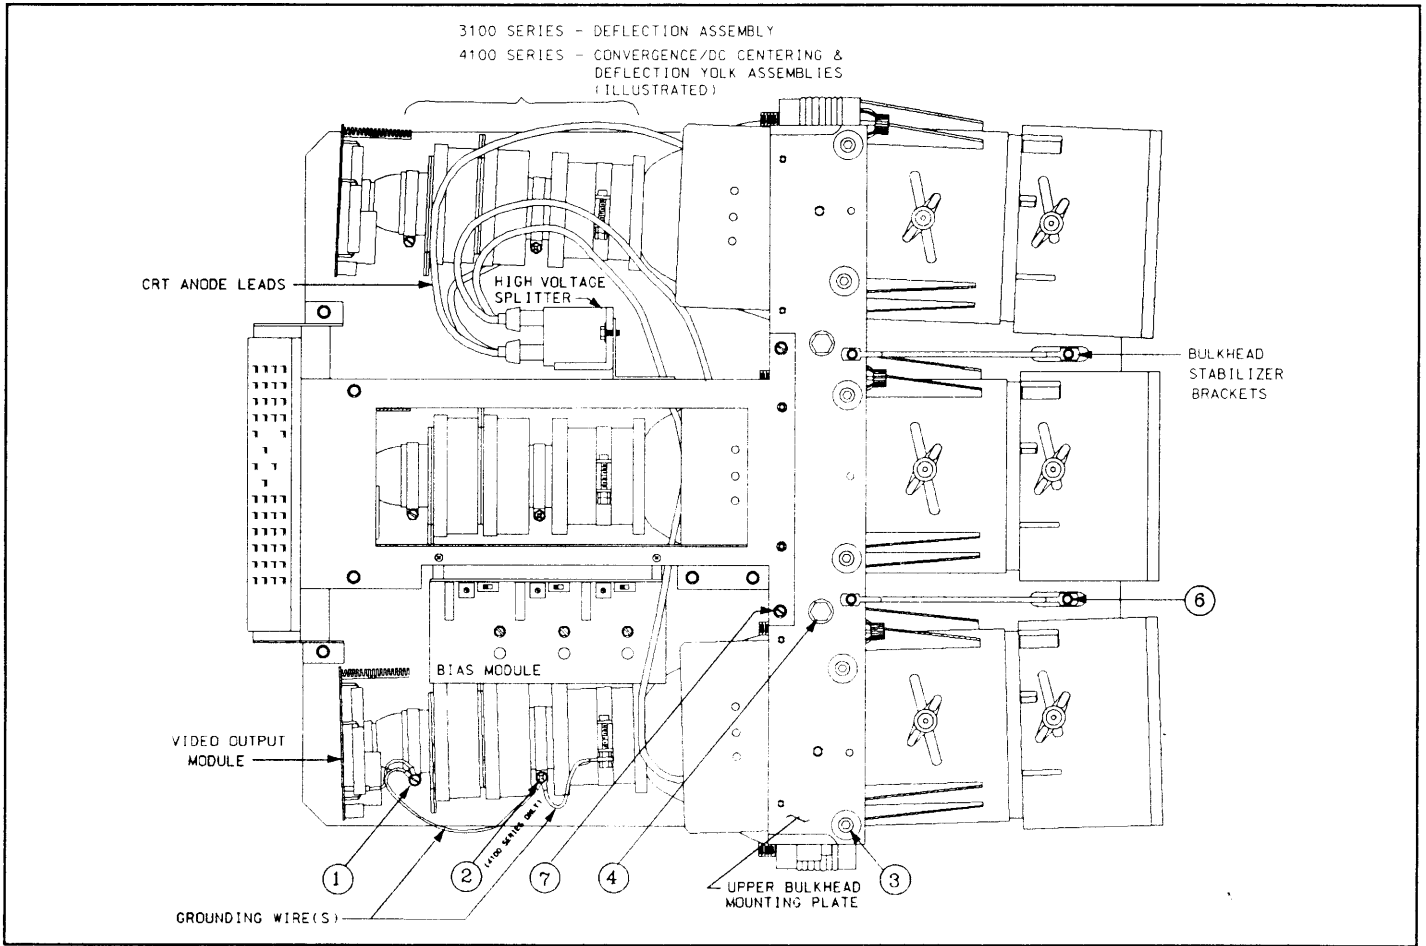
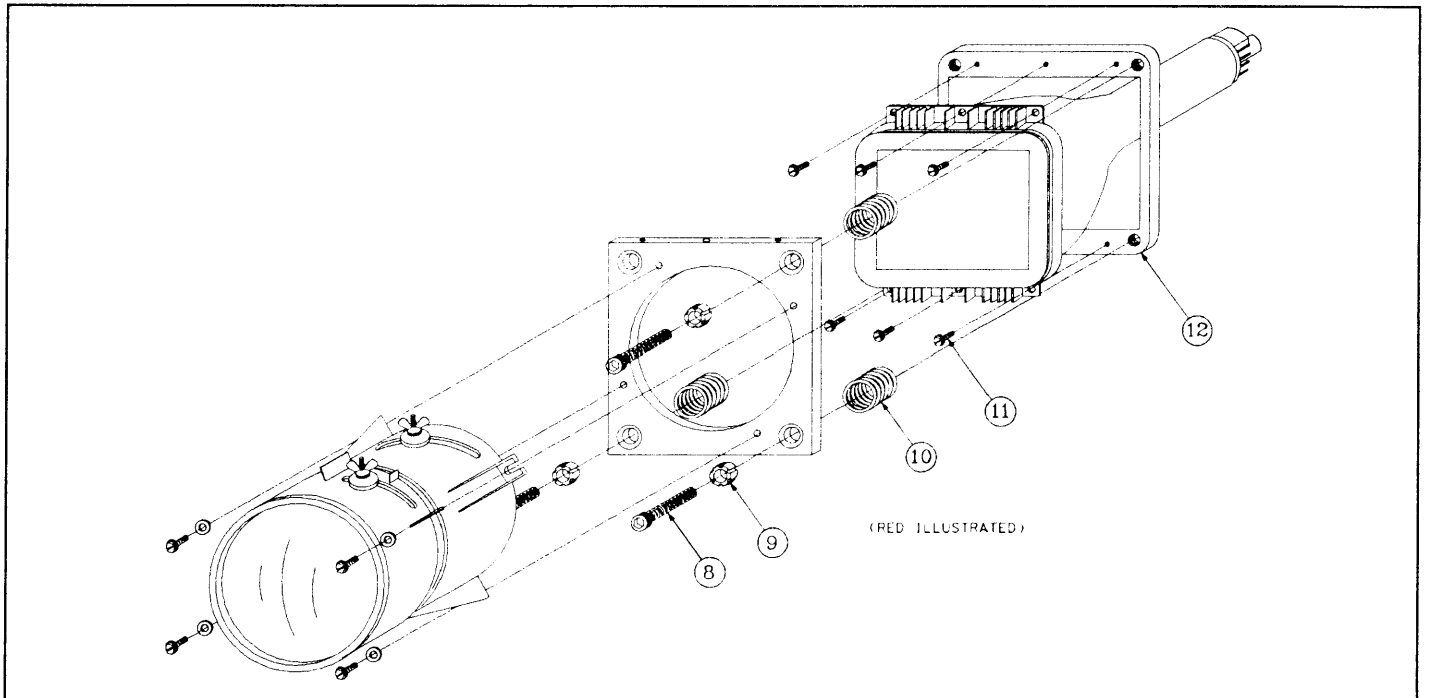

FIGURE 5-15 CRT Removal (A)
FIGURE 5-16 CRT Removal (B)
Loosen the main Deflection assembly clamp which secures the Deflection assembly to the CRT neck. The Deflection assembly (one piece) is similar in appearance, but not exactly as illustrated in Figure 5-15. Slide the Deflection assembly off the neck of the CRT.
Loosen the Convergence/DC Centering assembly clamp (item 1 in Figure 5-15). Next, loosen the Deflection Yoke clamp (item 2). Slide the Convergence/DC Centering assembly and Deflection Yoke assembly off the neck of the CRT. Retain the grounding wires for future re-assembly.
h) Remove the 6 CRT alignment screws (item 3).
i) Remove the 2 bulkhead securing bolts (item 4).
j) Remove the 4 bulkhead stabilizer bracket screws (item 5) for the two stabilizer brackets (item 6).
k) Remove the 2 bulkhead Bias module mounting bracket screws (item 7).
o) With the hex head ball-nose driver supplied in the tool pouch, remove the 3 CRT tilt bolts, swivel bushings and tilt springs (items 8,9 and 10 in Figure 5-16).
p) Remove the 6 CRT mount screws (item 11 in Figure 5-16) from the CRT heat sink (item 12 in Figure 5-16).
a) Mount the CRT heat sink (item 12 in Figure 5-16) to the CRT with the 6 CRT mount screws (item 11).
b) Secure the CRT/bulkhead to the lens mounting plate with the 3 CRT tilt bolts, swivel bushings and tilt springs previously removed (items 8,9 and 10 respectively in Figure 5-16).
g) Mount the Bias module mounting bracket with the 2 screws previously removed (item 7 in Figure 5-15).
h) Secure each bulkhead stabilizer bracket with the 4 screws previously removed (item 5 in Figure 5-15).
i) Install the 2 bulkhead securing bolts (item 4 in Figure 5-15)
j) Screw in the 6 CRT alignment screws (item 3 in Figure 5-15). Do not tighten fully.
Slide the Deflection Yoke assembly and the Convergence/DC Centering assembly as far as possible up the CRT neck. The terminal block on the Deflection Yoke assembly should be positioned downward. Refer to the illustration below. Tighten the Deflection Yoke clamp with the grounding wires connected as shown in Figure 5-15.
With the Convergence/DC Centering assembly against the Deflection Yoke assembly, tighten the assembly clamp (item 1 in Figure 5-15). The leads from the Convergence/DC Centering assembly should be at the 7 o'clock position when facing the CRT from behind. Refer to the above illustration. Ensure the previously removed grounding wires are connected as shown in Figure 5-15.
Remove the Deflection assembly clamp screw to release the grounding wire to the P3 connector on the Video Output Module. NOTE: The Deflection assembly is similar in appearance, but not exactly as illustrated in Figure 5-15.
Remove the Convergence/DC Centering assembly clamp screw to release the grounding wire to the P3 connector on the Video Output Module (item 1 in Figure 5-15). If the Yoke requires replacement, loosen the Deflection Yoke clamp (item 2 in Figure 5-15). Slide the Convergence/DC Centering assembly off the neck of the CRT.
If the Deflection Yoke requires replacement, slide the Deflection Yoke assembly off the neck of the CRT and replace. The Deflection Yoke assembly must be as far as possible up the CRT neck with its terminal block positioned downward. Refer to the illustration below. Tighten the Deflection Yoke clamp with the grounding wires connected as shown in Figure 5-15.
Slide the Convergence/DC Centering assembly over the CRT neck with the leads at the 7 o'clock position (when facing the CRT from behind). Refer to the above illustration. With the Convergence/DC Centering assembly against the Deflection Yoke assembly, tighten the assembly clamp (item 1 in Figure 5-15). Ensure the previously removed grounding wires are connected as shown in Figure 5-15.